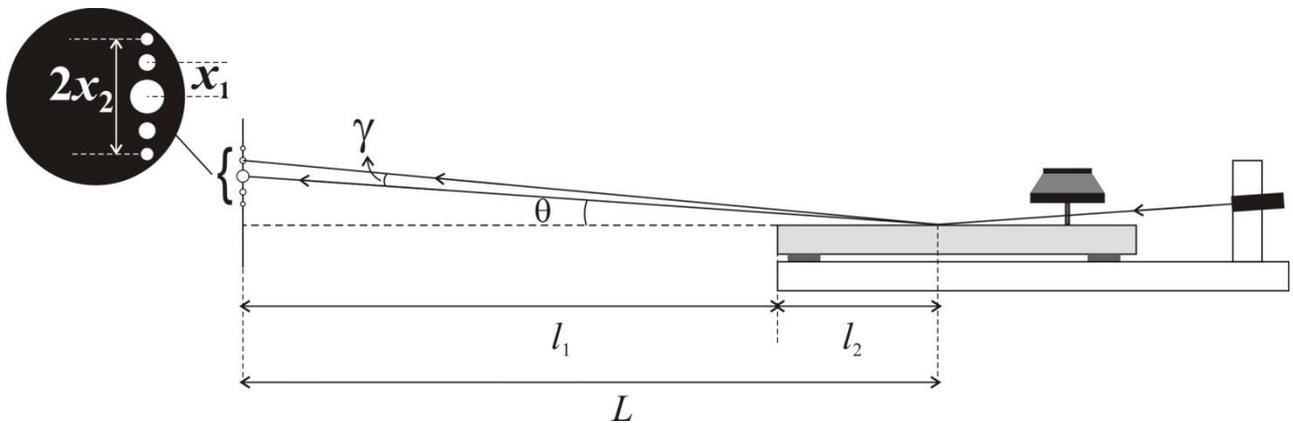

Figure 19: Schematic diagram of the apparatus
The angle γ is the angular distance between the central maximum and the first-order maximum (Fig. 19).
- Set the sine wave frequency to 60 Hz and adjust its amplitude such that the first- and second-order maxima of the diffraction pattern are clearly visible (Fig. 19 inset).